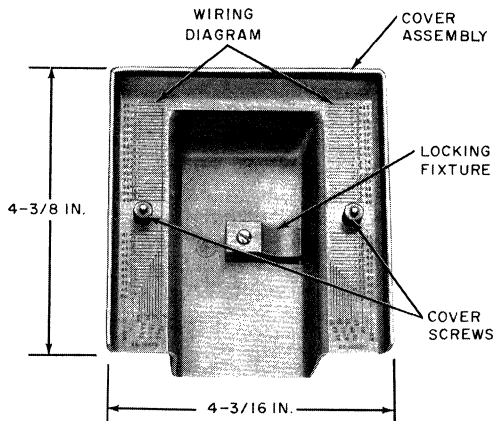

Fig. 6—149B Adapter, Inside Cover
- Has a removable high-impact polystyrene cover (Fig. 6).
- A reversible locking fixture attached to the inside of the cover (Fig. 6) secures an external plug (KS-16689,L1 plug-ended cord) to the KS-16672,L13 receptacle.
- The wiring diagram (Fig. 5) is also molded into the inner surface of the cover assembly (Fig. 6).